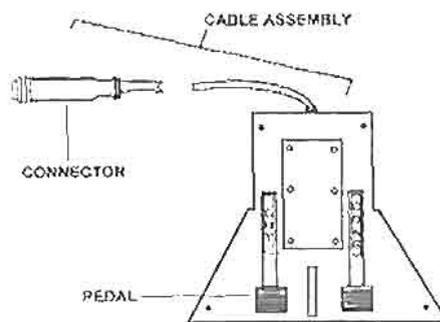
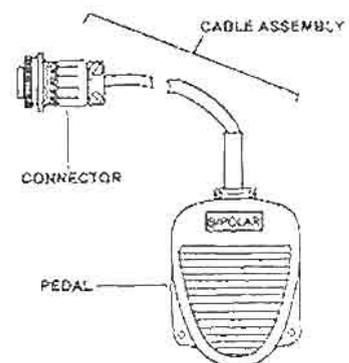

Figure 1-3. Monopolar footswitch.
Figure 1-4. Bipolar footswitch.
b. *Footswitches.* The monopolar (fig 1-3) and bipolar (fig 1-4) footswitches are made of heavy cast metal. Both footswitches are explosion proof and splash proof. The attached cable assembly on each footswitch is 10 feet long. Pedals on the monopolar footswitch are labeled for "CUT" and "COAG" activation. The monopolar footswitch also has protective guards to prevent accidental depression.